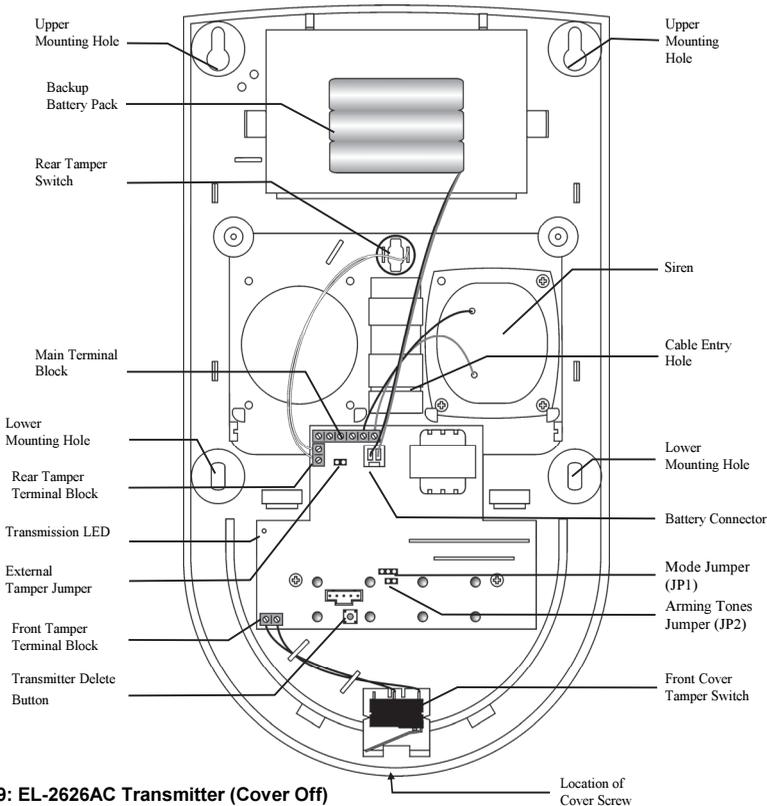
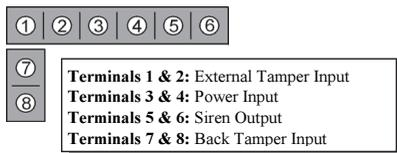

Figure B- 49: EL-2626AC Transmitter (Cover Off)
Figure B- 50: Wiring Connections
4. Connect a 12VDC or 9VAC, 500mA transformer to terminals 3 and 4 on the siren's terminal block (polarity is not important) – see Figure B- 50.
17. Connect the transformer to the terminal block and the backup battery to the battery connector. If using Electronics Line 3000's tamper protected external power supply, connect its tamper output to the siren's external tamper input, remove the External Tamper jumper and place it over one pin for storage – see Figure B- 50 for further information on wiring connections and Figure B- 49 for the location of the External Tamper jumper.